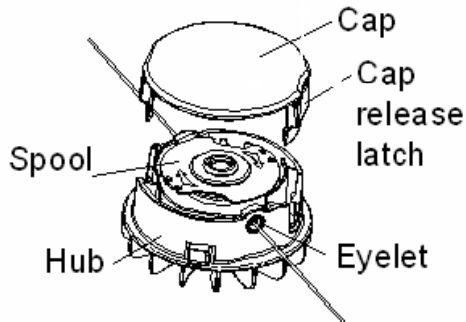

Fig. 21
2. Remove the spool assembly from the trimmer. To do so, hold in two cap release latches with one hand. Pull cap away from the hub. (Fig.21). Remove spool.